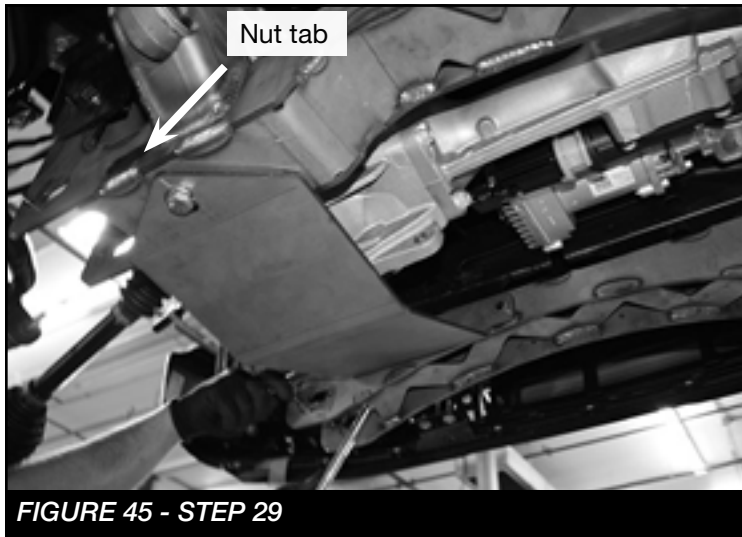

FIGURE 45 - STEP 29
29. Install FT20856 (Skid plate) to the front crossmember using the supplied two 7/16" x 1-1/2" bolts, washers and nuts. Then, install to the rear crossmember using the supplied 1/2" x 1-1/2" bolt, washer and FT20855 (Nut tab). Install the Nut tab through the open slot on the back side of the crossmember. **SEE FIGURE 45**